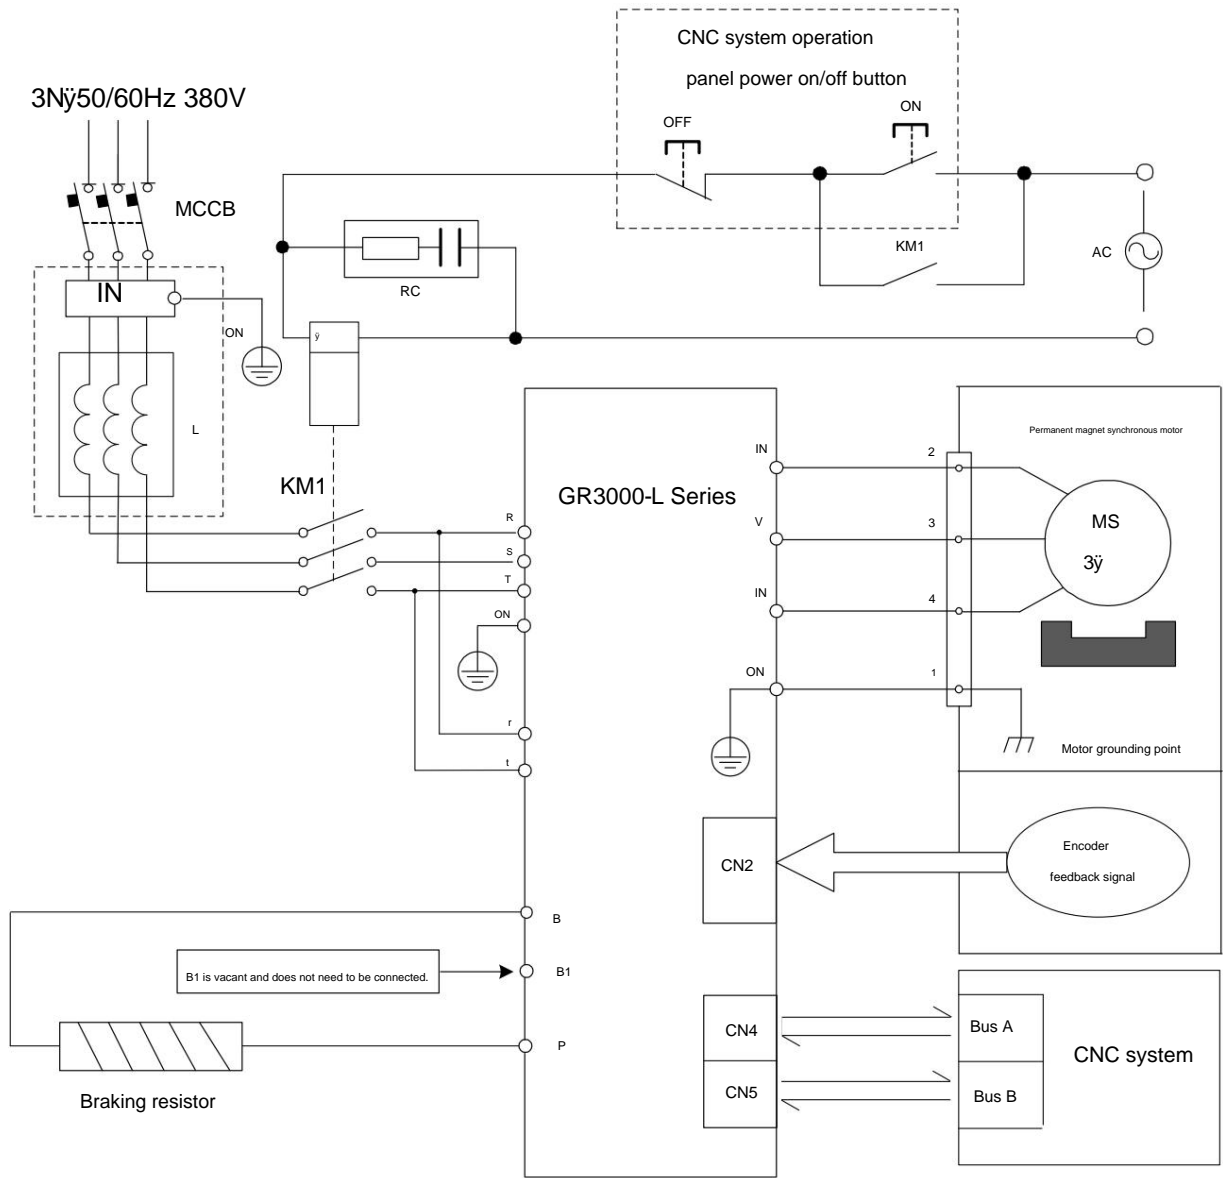

Figure 3-7 Main circuit wiring diagram of AC permanent magnet synchronous servo motor for GR3000-L series products
- Example If the user refers to Figure 3-7 for wiring, be sure to select the appropriate circuit breaker MCCB according to the description in <Appendix B>.
- Figure 3-7 is not applicable to GR3300-LA2 and GR3300-LS2.